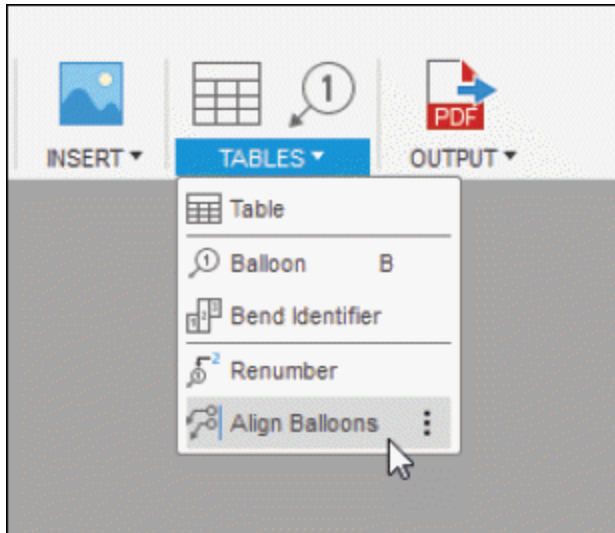

Figure-129. Align Balloons tool
- Click on the **Align Balloons** tool from **TABLES** drop-down in **Toolbar**; refer to Figure-129. The tool will be activated.